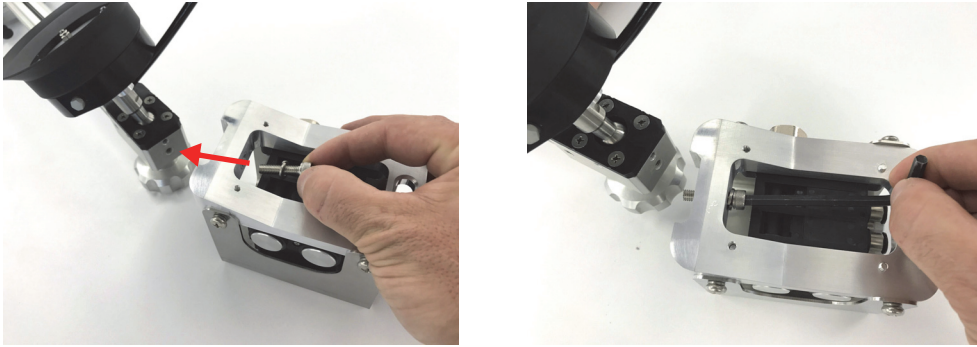

Figure 2-15 Installing the vacuum generator
10. Install the vacuum generator onto the pod bracket by screwing the bolt into the threaded hole on the end (see Figure 2-15 on page 36). Tighten the bolt.